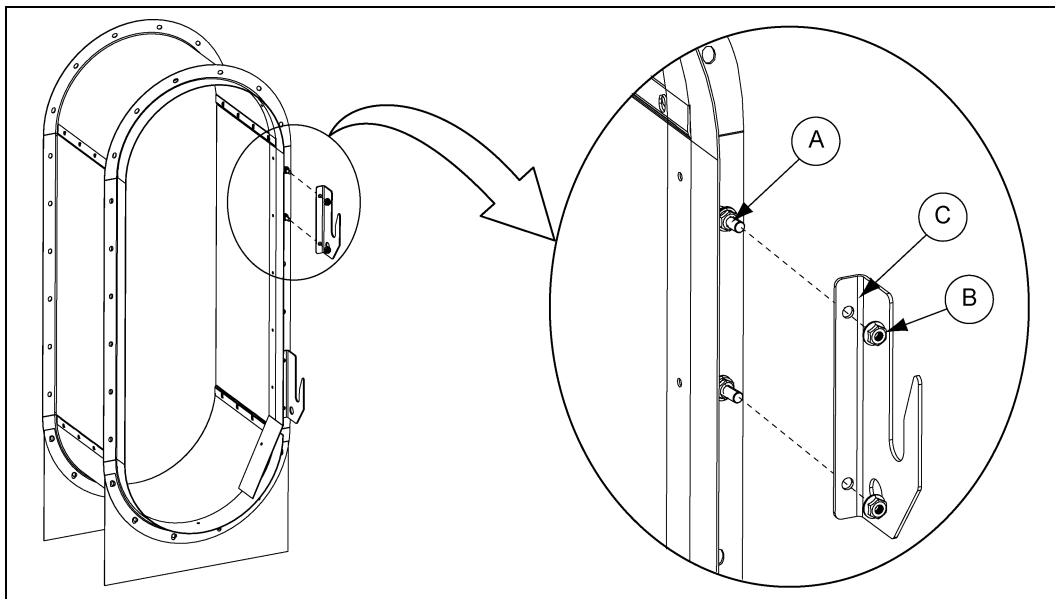

Figure 2
1. Install the door catch (C) to the door frame by using the 5/16" bolts (A) and nuts (B). (See Figure 2.)